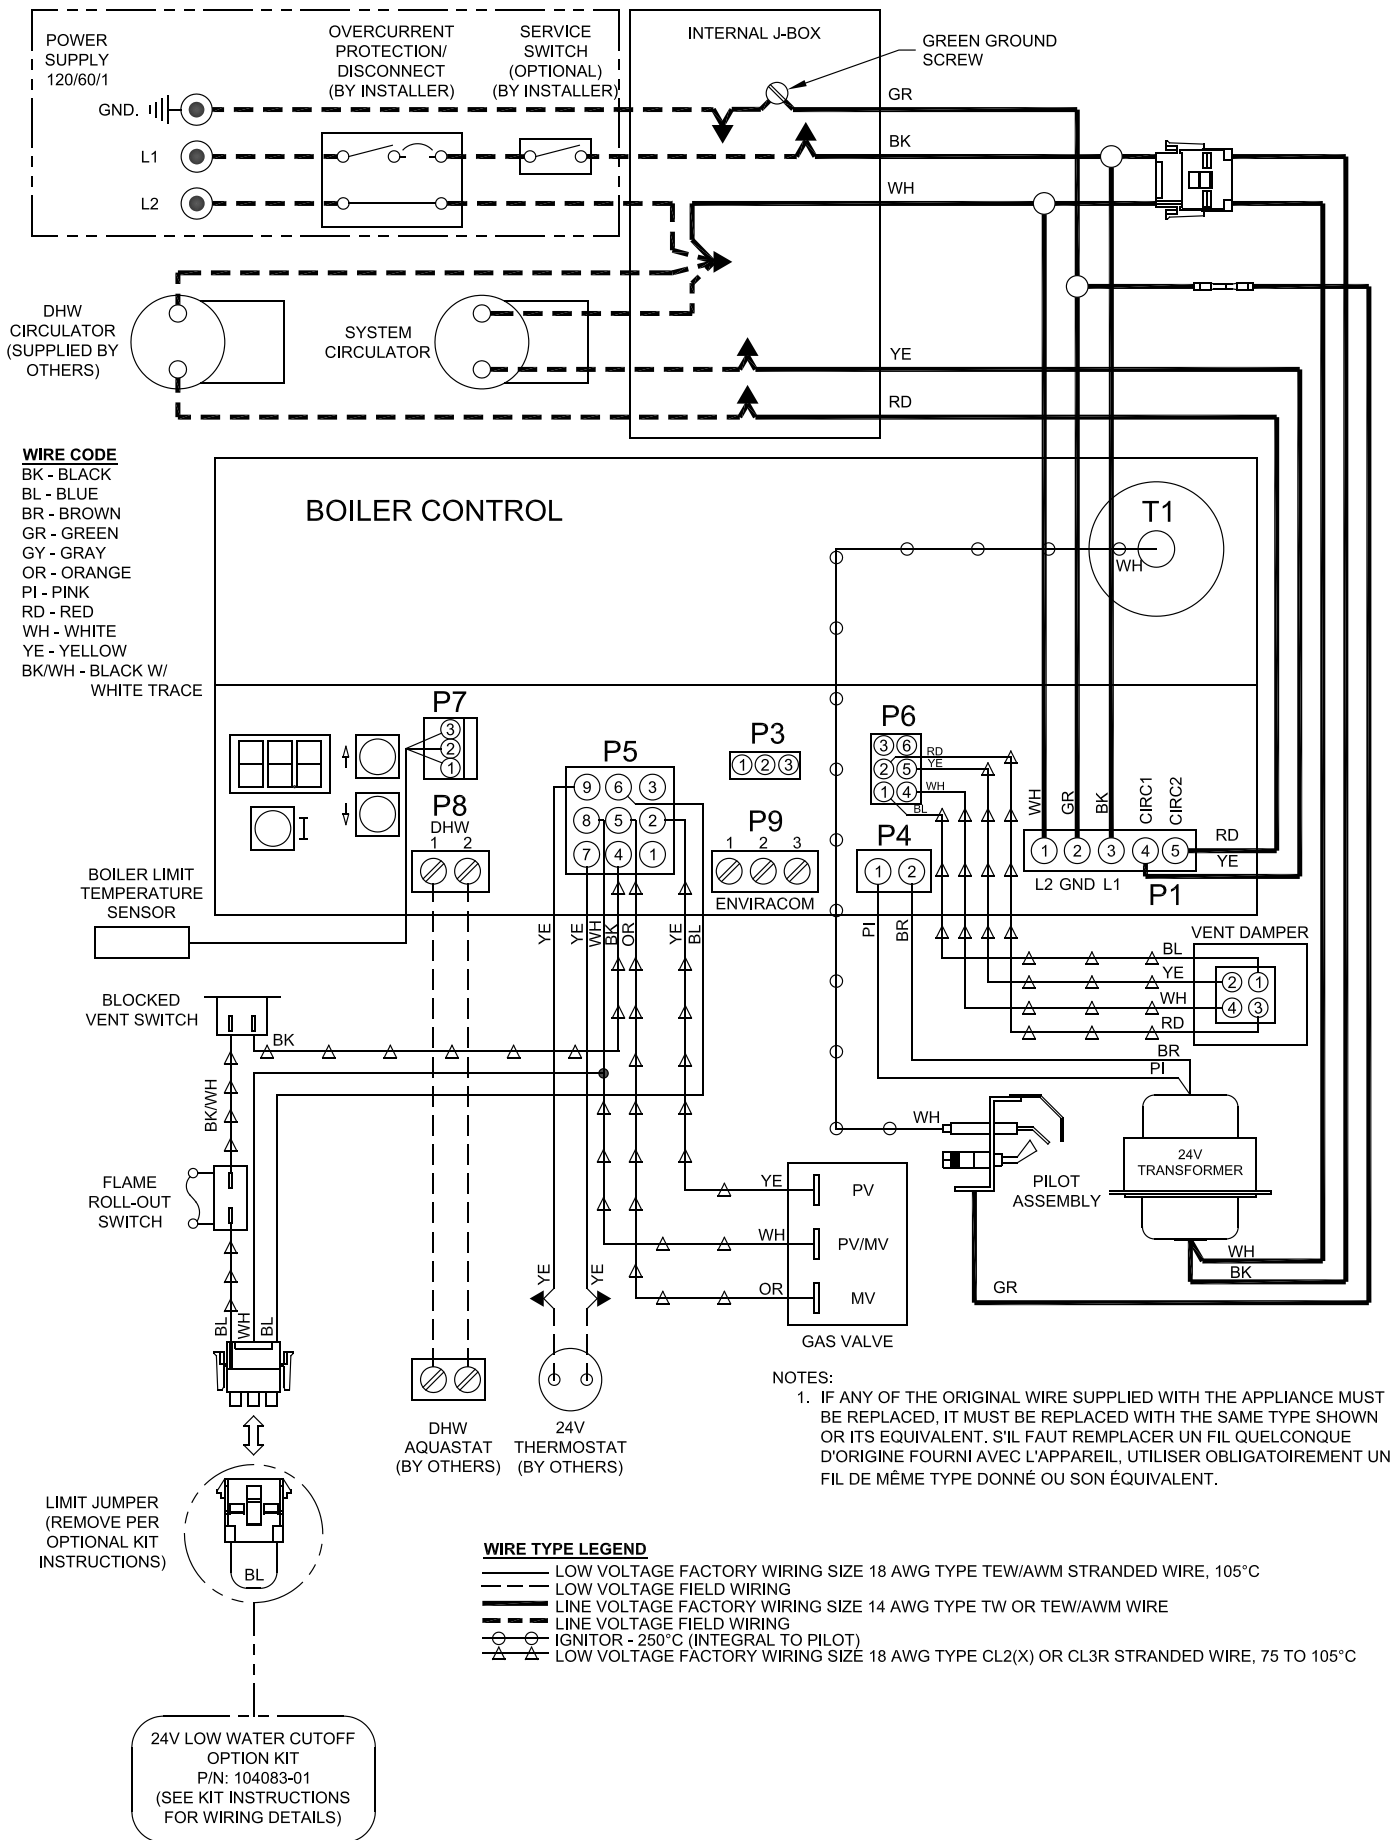

Figure 11: Wiring Schematic, Boiler Control
- D. New Yorker Link SL™ indirect water heater (if used).** See Figures 11 and 12. Also refer to the New Yorker Link SL™ Indirect *Water Heater Installation, Operating and Service Instructions*.
- F. Wire boiler.** Boiler is rated for 120 VAC, 60 hertz, less than 15 amperes. A separate electrical circuit must be run from the main electrical service with an over-current device/disconnect in the circuit. A service switch is recommended and may be required by some local jurisdictions. Connect to black and white wires and green ground screw. See Figures 11 and 12.